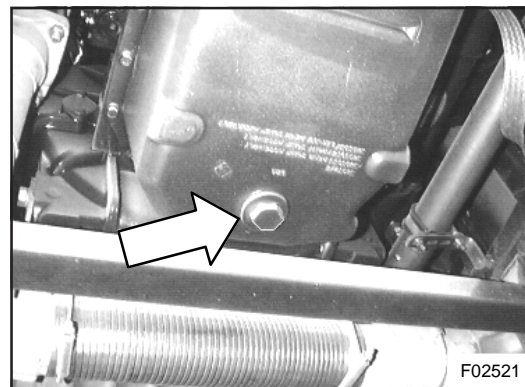

Figure 7: Lubricating oil drain plug
1. Operate engine until coolant temperature reaches 140°F. Shut off engine. Remove lubricating oil drain plug from the bottom of the oil pan (see Figure 7).